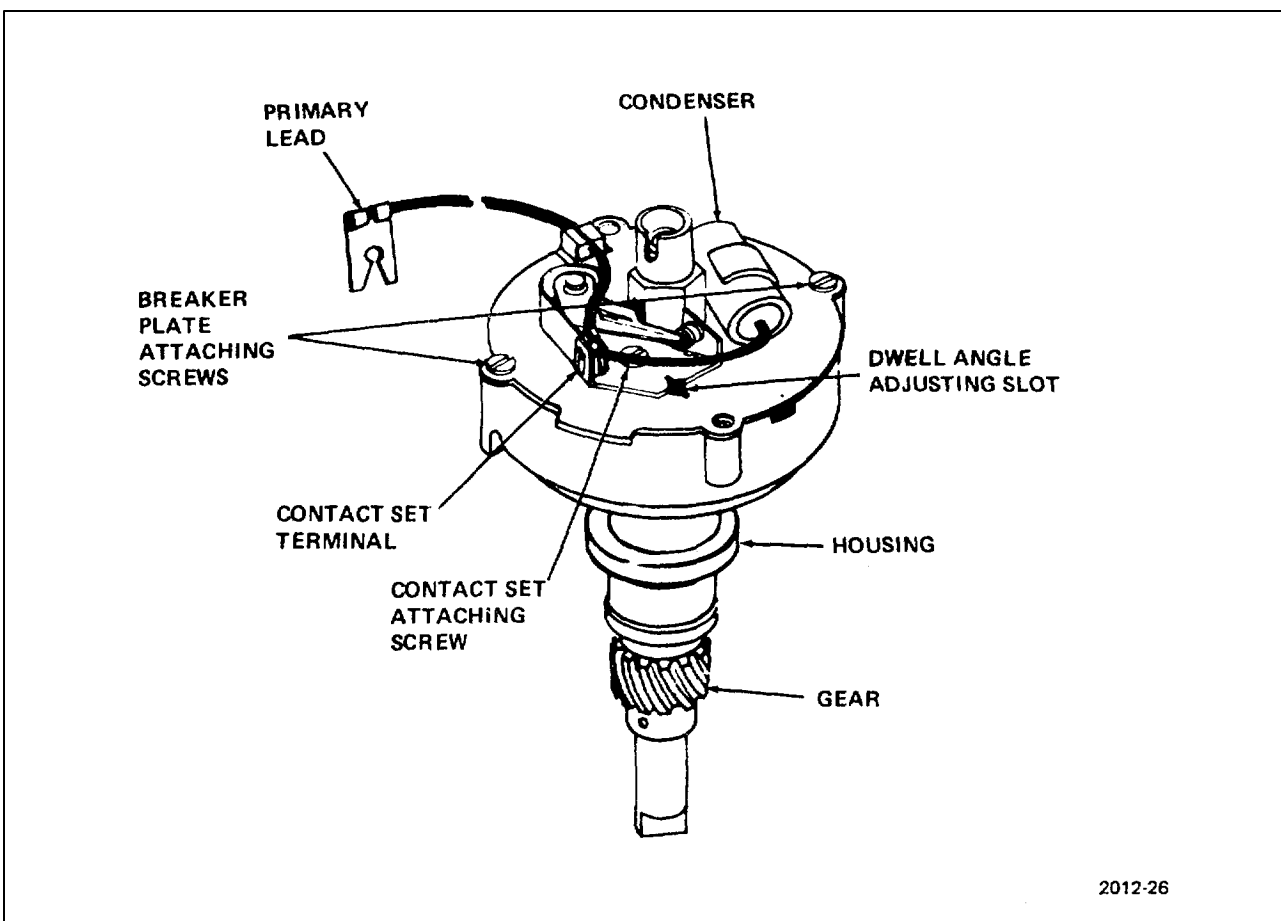

Figure 5-5. Breaker Plate
- c. Disconnect primary and condenser lead wires from contact point terminal (see figure 5-5).